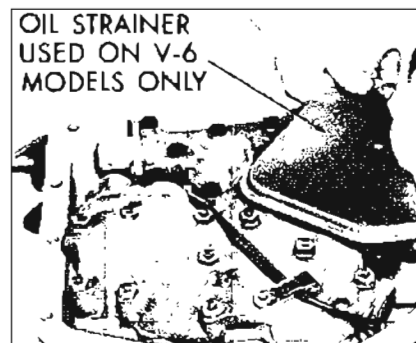

Figure 5-105
2. Remove the oil strainer from model V-6 transmissions. See Figure 5-105.